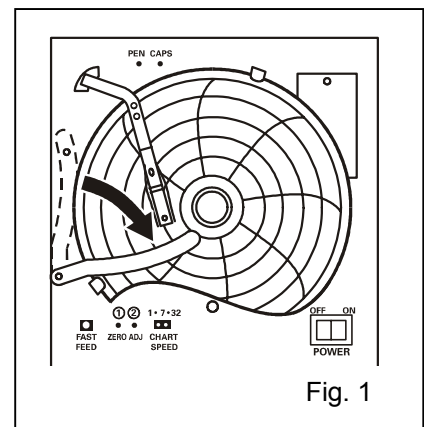

Fig. 1
1. Slightly raise the end of the pen lifter and remove from the lifter stopper. Then rotate clockwise as shown in Fig. 1.